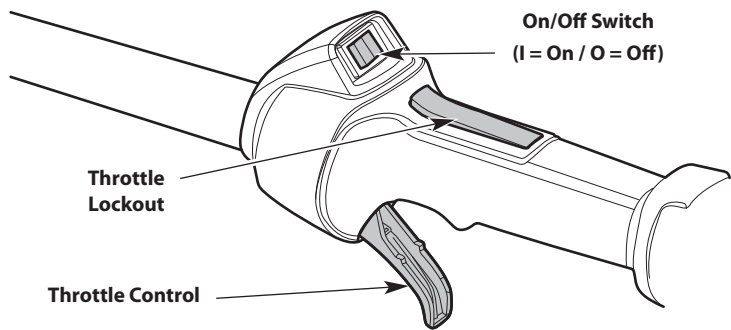

Fig. 10
**NOTE:** There is no need to turn the unit on. The On/Off switch is in the **On (I)** position at all times (Fig. 10).
4. Press and hold the throttle lockout (Fig. 10). Squeeze and hold the throttle control (Fig. 10).
- 2. Press and hold the On/Off switch in the **Off (O)** position until the engine comes to a complete stop (Fig. 10).
5. Press and hold the throttle lockout (Fig. 10). Squeeze and hold the throttle control (Fig. 10).